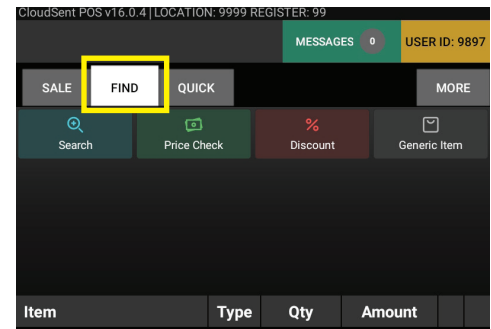

Figure 40
- Tap Find on the tablet (Figure 40).